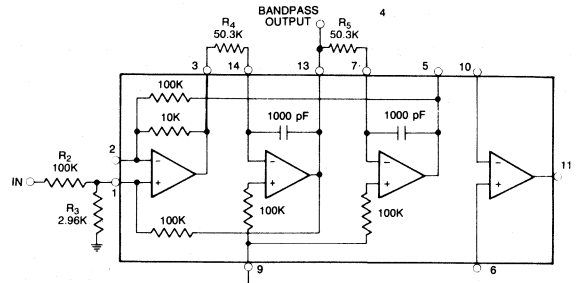

Figure 6.
4. This completes the filter design which is shown in Figure 6. To choose the nearest 1% standard value resistors either 49.9K or 51.1K ohms could be used; likewise one value of 49.9K and one of 51.1K could be used giving the geometric mean of $\sqrt{R_4 R_5} = \sqrt{49.9\text{K} \times 51.1\text{K}} = 50.5\text{K}$ which is even closer. But due to the filter $\pm 5\%$ frequency tolerance it may be better to hold R_4 constant while varying R_5 to tune it exactly.